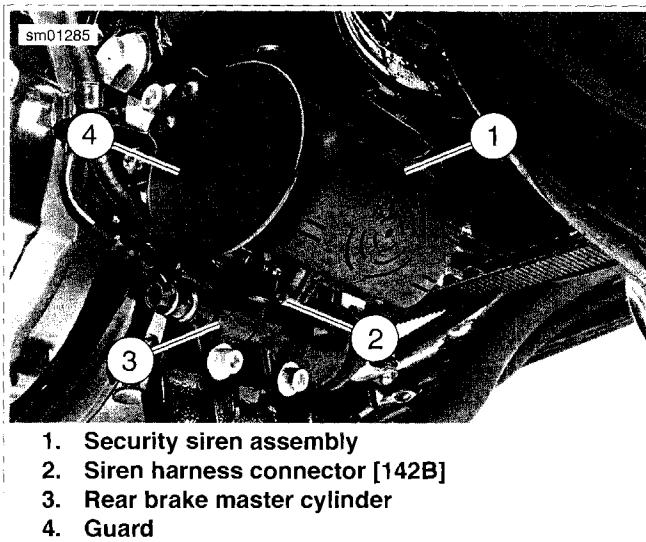
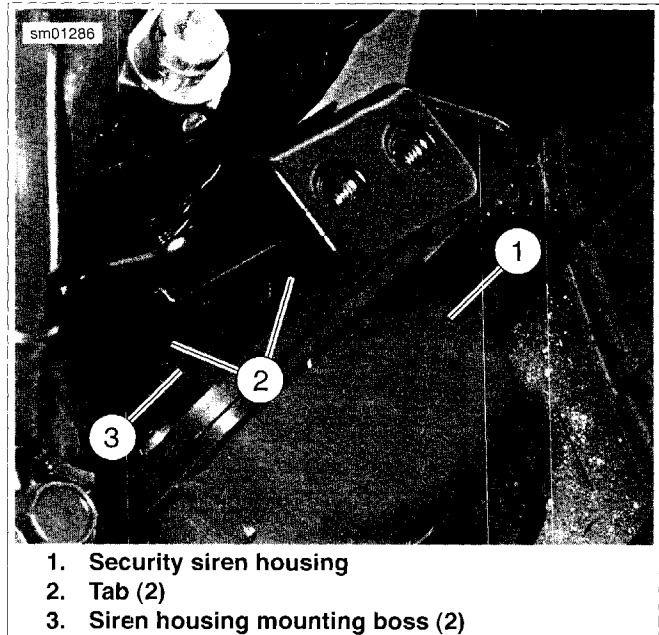

Figure 6-114. Security Siren
Figure 6-115. Security Siren Mount (Guard Removed for Clarity)
See Figure 6-114. The security siren (1) is a self-contained unit with its own replaceable power supply (9-volt battery). The unit is mounted on a bracket attached to the rear brake master cylinder (3) mounting bracket under the rear fork pivot point.
1. See Figure 6-114. Disarm security system. While system is disarmed, unplug siren harness connector [142B] (2) from siren assembly (1).
2. See Figure 6-115. Gently pry up on two tabs (2) while pulling siren housing (1) toward the left side of the motorcycle. This will disengage siren mounting bosses (3) from mounting bracket. Allow siren assembly to drop down and remove from vehicle.
- See Figure 6-115. Position siren (1) in mounting bracket so that mounting bosses (3) align with mounting clips in bracket and connector socket [142A] faces rear master cylinder.
- Slide siren housing toward the right side of the vehicle until tabs (2) lock siren in place.
- See Figure 6-114. Plug harness connector [142B] (2) into siren connector socket [142A].